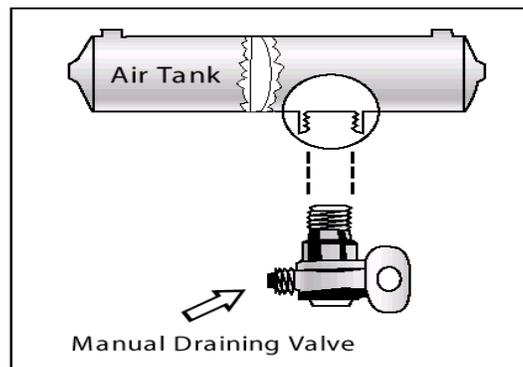

Figure 5.1
1. Manually operated by turning a quarter turn or by pulling a cable. You must drain the tanks yourself at the end of each day of driving. See Figure 5.1.